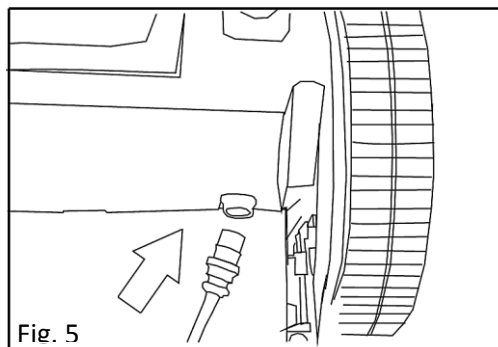

Fig. 5
5. Once the Handle is assembled connect the plug on the handle cable to the socket on the Main unit. Tighten the screw ring to secure the cable. (See Figure 5)